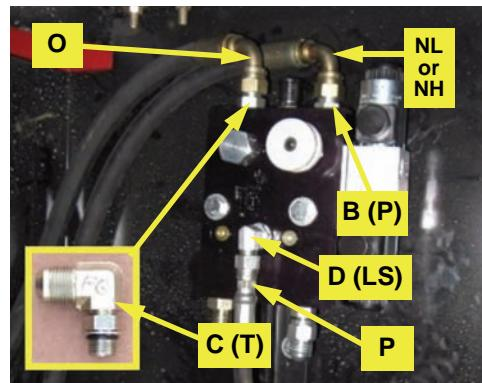
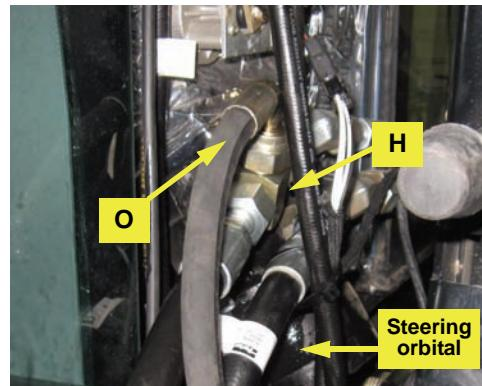
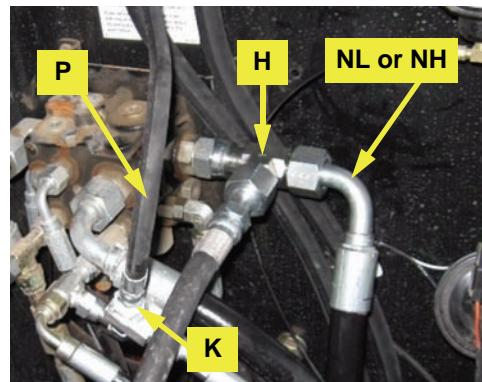

Figure 5a: Installed pressure, tank, and load sense hoses at steering block
Figure 5b: Installed tank hose at steering orbital
Figure 5c: Installed pressure and load sense hoses at hydraulic divider valve
- Install the pressure hose **NL** (or **NH**) between the fitting **B** in the **P** port of the hydraulic steering block (Figure 5a) and the run-tee **H** installed on the hydraulic divider valve (Figure 5c).
- Install the tank hose **O** between the fitting **C** in the **T** port of the hydraulic steering block (Figure 5a) and the run-tee **H** installed in the steering orbital (Figure 5b).
- Install the load sense hose **P** between the fitting **D** in the **LS** port on the hydraulic steering block (Figure 5a) and **K** on the load sense shuttle (Figure 5c).